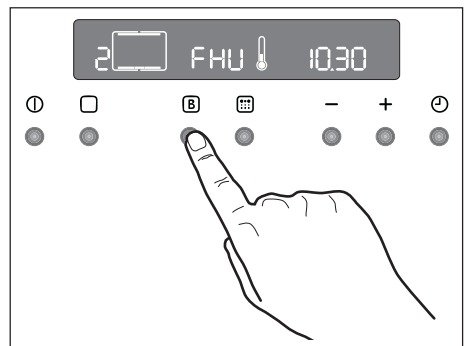

Fig. 14
- 4) Press button . The temperature display will show "FHU" (Fig. 14).